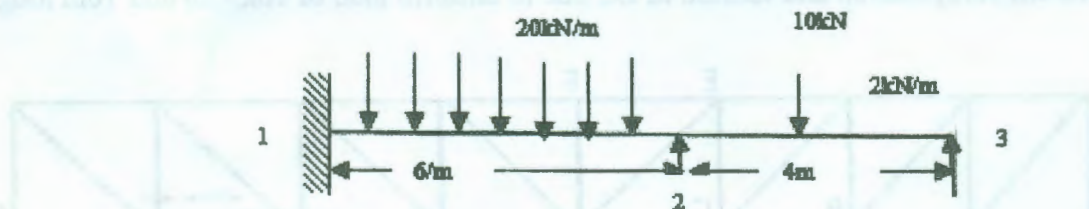

Fig.4
15. Analyse the continuous beam shown in Fig.4 by direct stiffness method. Given $E=25.5 \times 10^6$ kN/mm² breadth of beam 300mm and depth of beam 600mm. [10]